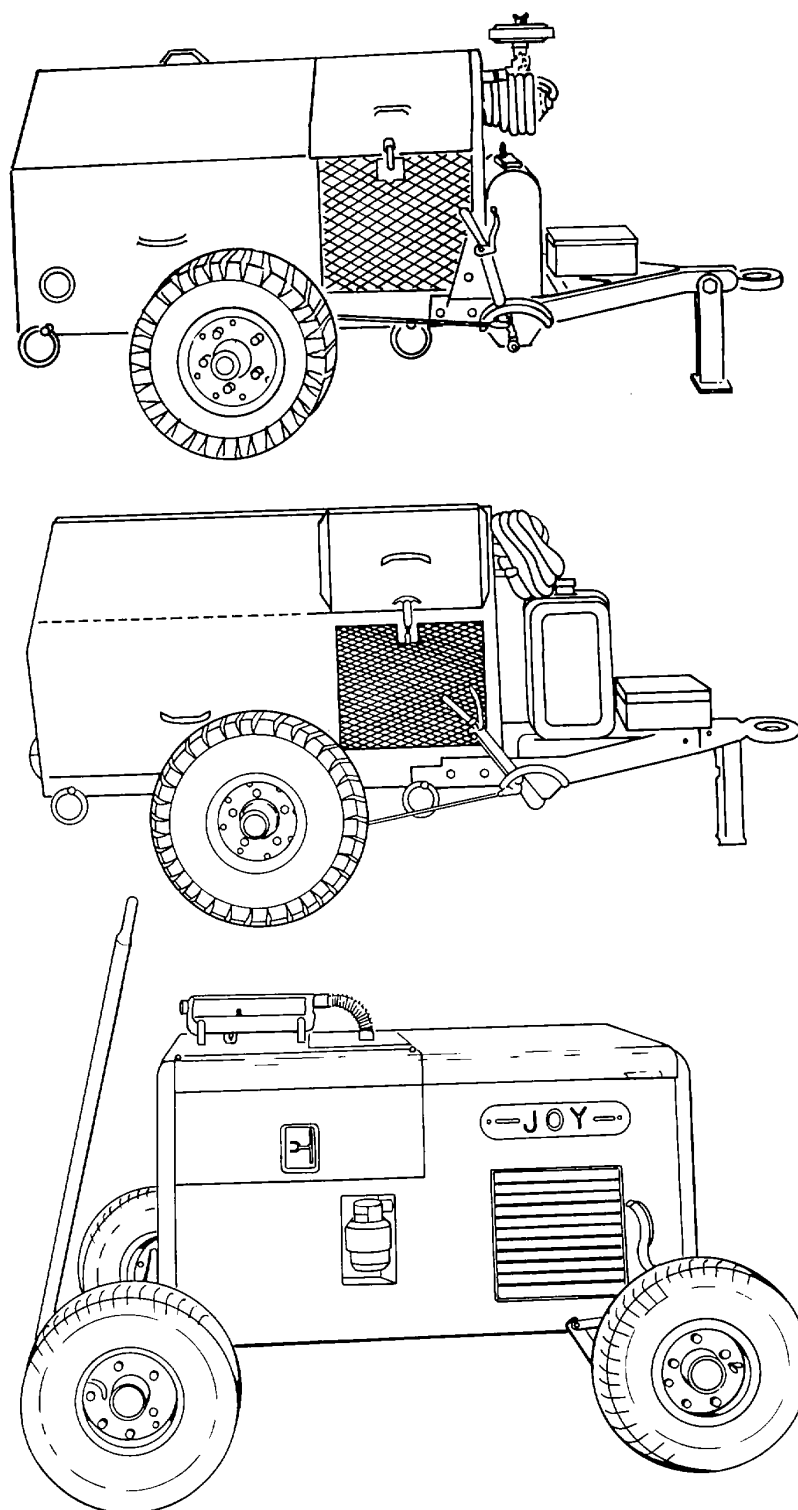

Figure 9-14. Typical Air Compressors
*g. Air Compressors.* Air compressors, shown in figure 9-14, are portable sources of compressed air. They are self-contained and mounted on a two or four wheel trailer frame.
(2) *Types.* Air compressors are typed by the maximum flow and pressure they can produce. Generally, the low pressure compressors provide up to 175 psi and are used for pneumatic tools, spray guns, greasing equipment, and so forth. The high pressure compressors produce pressures of 3,000 to 3,500 psi. These are used for tasks such as charging accumulators, struts, and pneumatic systems on aircraft. The external appearance of types may vary by model number or manufacturer. The air compressors shown in figure 9-14 are typical of those found in maintenance organizations.